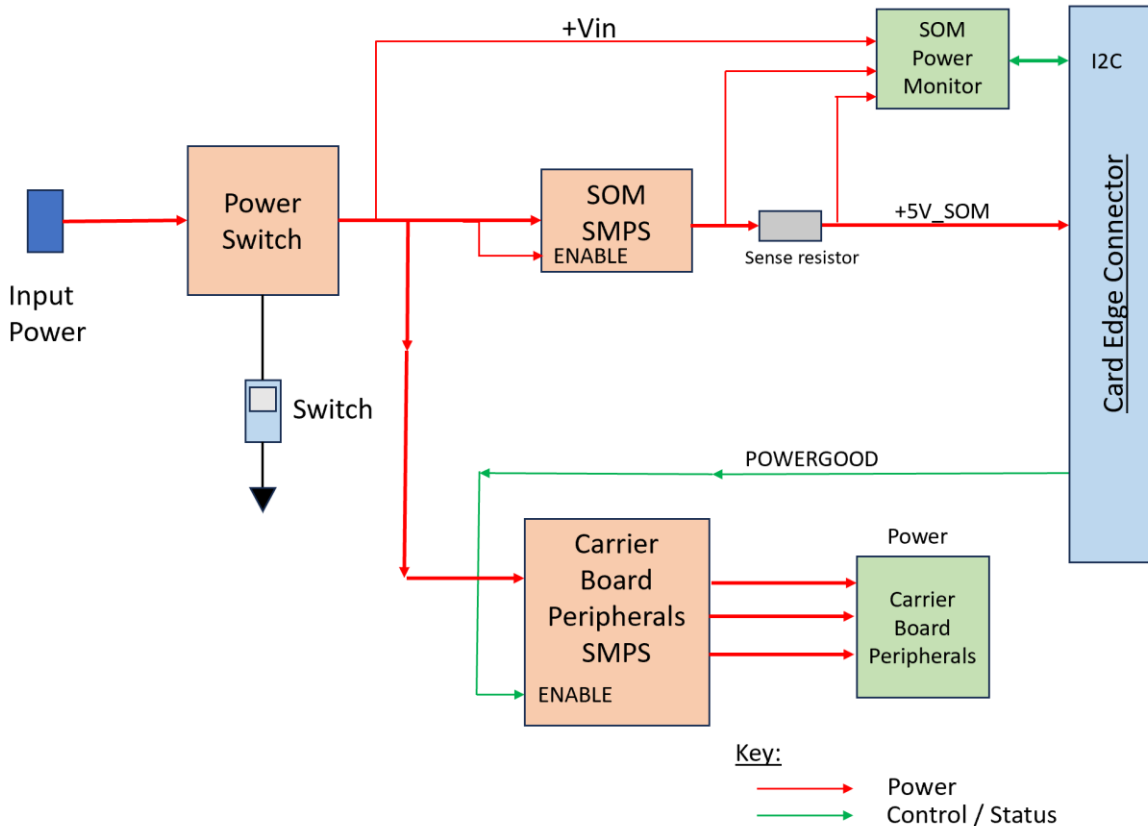

Figure 7: Carrier Board Power Section Block Diagram
The carrier board is responsible for sourcing a +5V power source to the MitySOM-AM57. See Figure 7 for a block diagram of a typical power section for a carrier board designed to support the MitySOM-AM57.
Features of Carrier Board Power Section (refer to Figure 7 above):
- Input power, such as +12 VDC, is provided from an external source via a power jack or header, as shown in Figure 7.